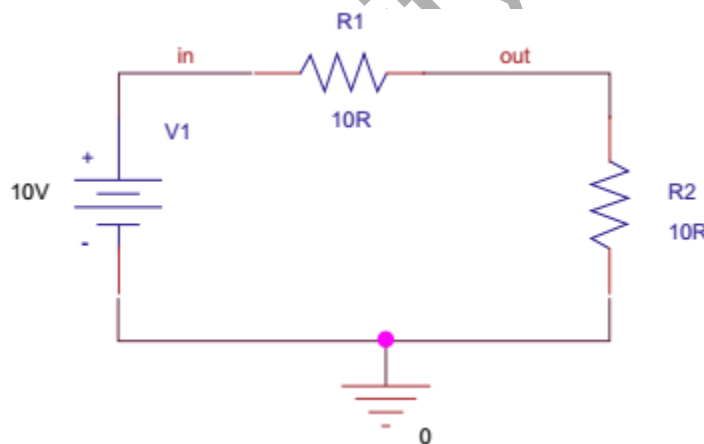

Figure 1 Simple resistor circuit
- 6- Now we want to draw the resistor network shown in Figure 1